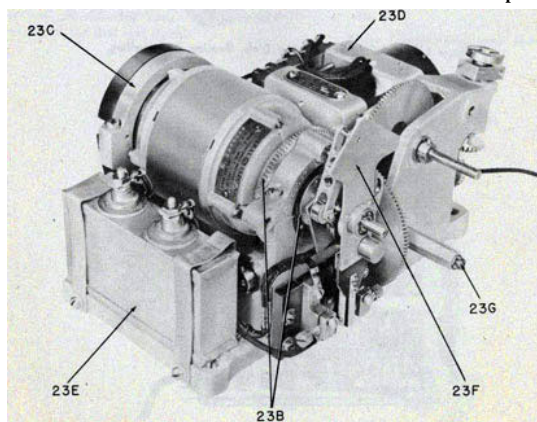

Figure 142-Assembling Own Ship Course Unit.
23. To assemble the own ship course unit, follow the outline given below. See figure 142.